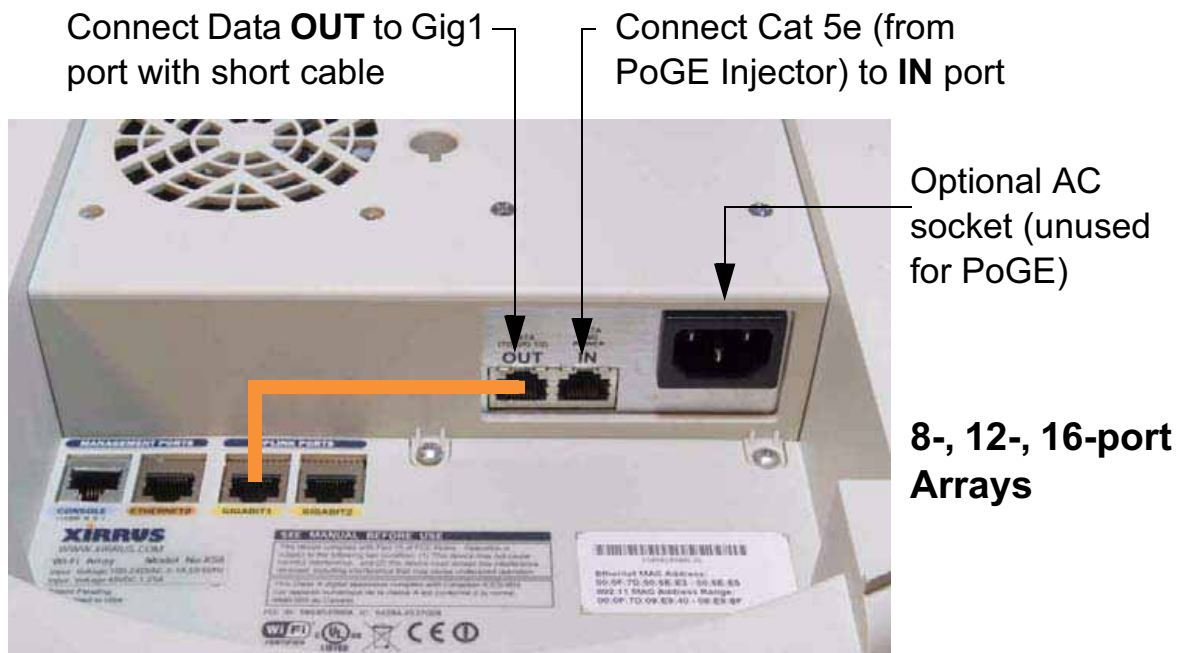

Figure 41. Connecting the Cables (PoGE—XS8/XS12/XS16)
For the XS8, XS12, or XS16, use the procedure below and refer to Figure 41. For the XS4, see “Connecting the Cables—AC Option” on page 89. All of these Array models have an integrated splitter, so an external splitter is not needed.
- Connect the Cat 5e or Cat 6 data cable coming from the PoGE injector to the Array’s Data and Power **IN** port as shown in Figure 41.
*Do not connect the cable from the injector directly to a Gigabit port! It must be connected to the **IN** port (towards the right in Figure 41).*